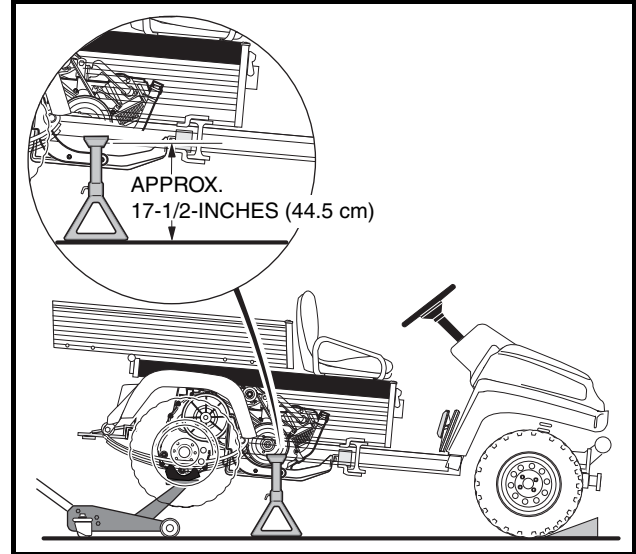

Figure 9-3 Correct Positioning of Jack Stands
4. Position jack stands under the two side stringers as shown (**Figure 9-3, Page 9-3**). Lower the floor jack to let the jack stands support the vehicle. See **WARNING “Lift only one end…”** in **General Warning, Section 1, Page 1-2**.